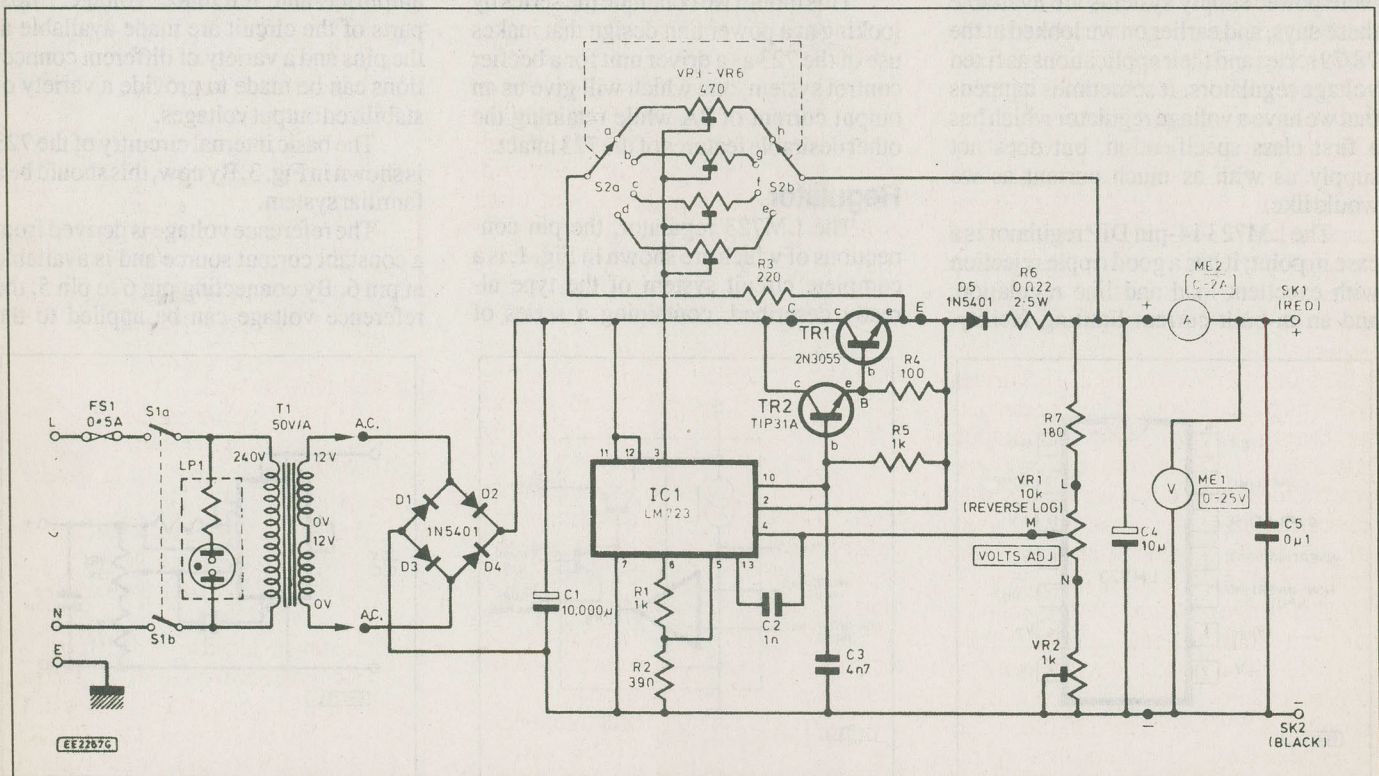

Fig. 4. Complete circuit diagram for the 1.5V/25V Variable Power Supply. The solid circles refer to circuit board connection points.
the 2A power unit is shown in Fig. 4. Here a conventional bridge rectifier feeds the 723 (IC1) which in turn drives the power booster combination of transistors TR1 and TR2. Transistor TR1 (a 2N3055) is the conventional series emitter-follower controller which is itself driven by TR2, a small power transistor, type TIP31A. This is necessary as the output of IC1 (723) is insufficient to drive TR1 directly.
It is suggested that both voltage and current meters be fitted to the complete unit. A voltmeter is almost certainly necessary and an ammeter is well worth inclusion. The circuit for the two meters is shown between the Volts Adjust control and the output terminals in Fig. 4. These are wired between the board output terminals and the front panel of the unit. If the specified meters are used, no rescaling is necessary.